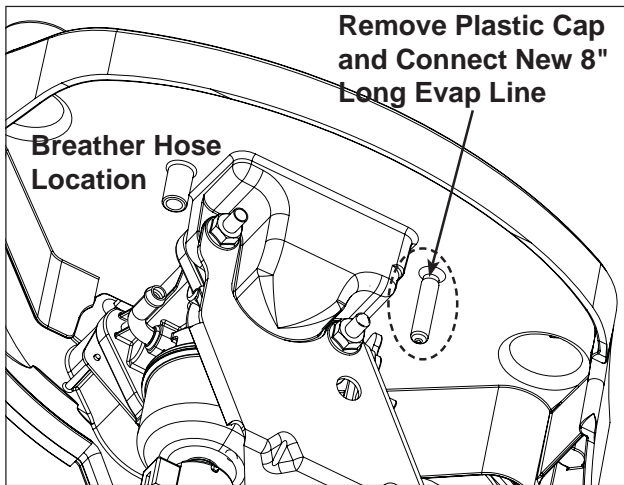

Figure 4. Connect New 8" Long Evap Line to Air Cleaner Base.
5. Route the new 8" long evap line from the T-Fitting to the plugged port on the air cleaner base. Remove and discard the plastic cap at that location. See Figure 4.